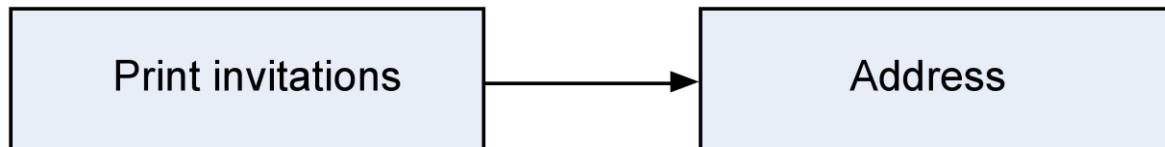

Figure 15.5: An example of a finish-to-start (FS) predecessor.
each activity is kept. All of the information you need to figure out; the order of the work should be here too. So any predecessor activities, successor activities or constraints should be listed in the attributes along with descriptions and any other information about resources or time that you need for planning. The three main kinds of predecessors are finish-to-start (FS), start-to-start (SS) and finish-to-finish (FF). The most common kind of predecessor is the finish-to-start. It means that one task needs to be completed before another one can start. When you think of predecessors, this is what you usually think of; one thing needs to end before the next can begin. It's called finish-to-start because the first activity's finish leads into the second activity's start (Figure 15.5).